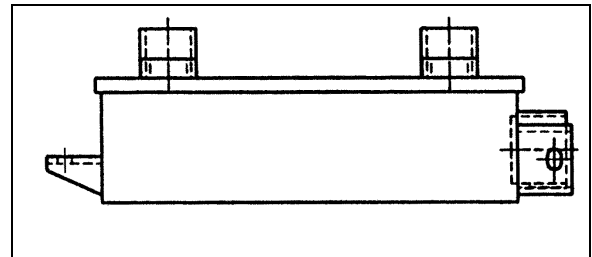

FIGURE 13: COOLER WITH RETARDER 07073
2. Disconnect the two transmission hoses from oil cooler. Cover hose ends and fittings to prevent fluid contamination (fig.13).